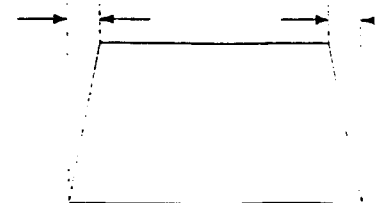

Figure 9
3. Press and rotate the Encoder to let  $Y \leq 2.0$  mm (See Fig 9).